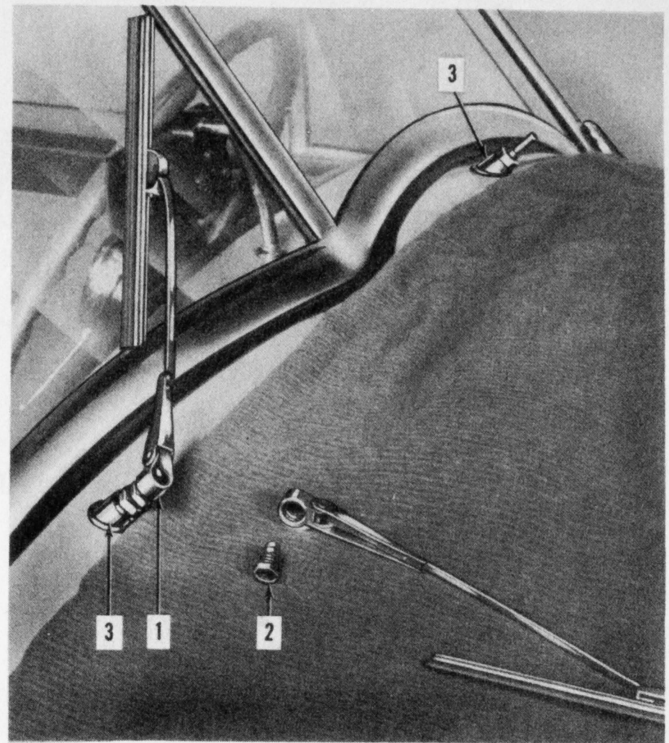

FIGURE 25—Removing Windshield Wiper Arms.
Fig. 25 illustrates the friction nut that it may not be confused with the shaft holding nut.
2. Remove windshield wiper arms and blades (Fig. 25).
3. Remove wiper shaft holding nut, spacer and washer (Fig. 25).